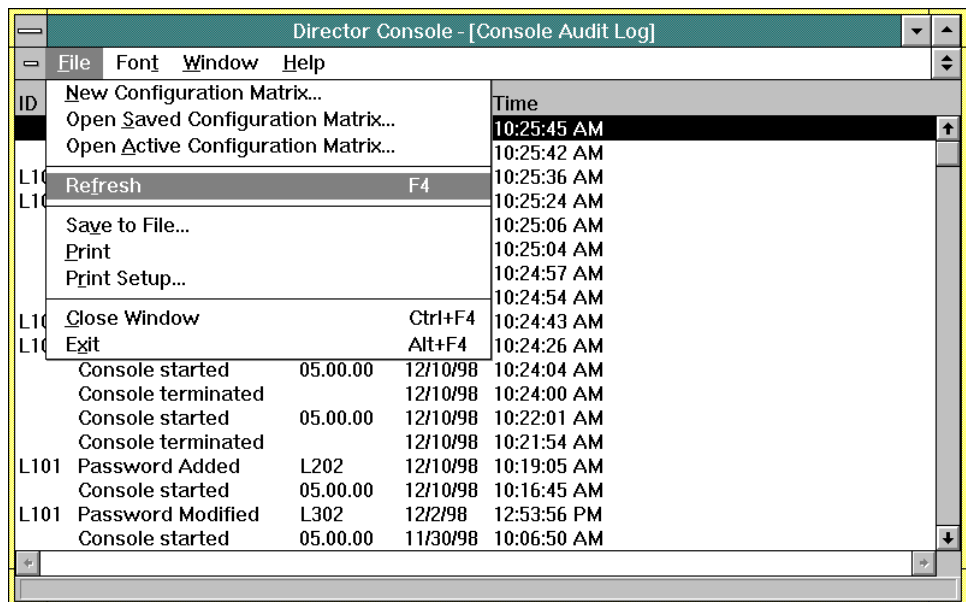

Figure 52. File Menu (Console Error and Audit Logs)
*File* menu options (Figure 52) available from the *Console Error* and *Console Audit* logs are: